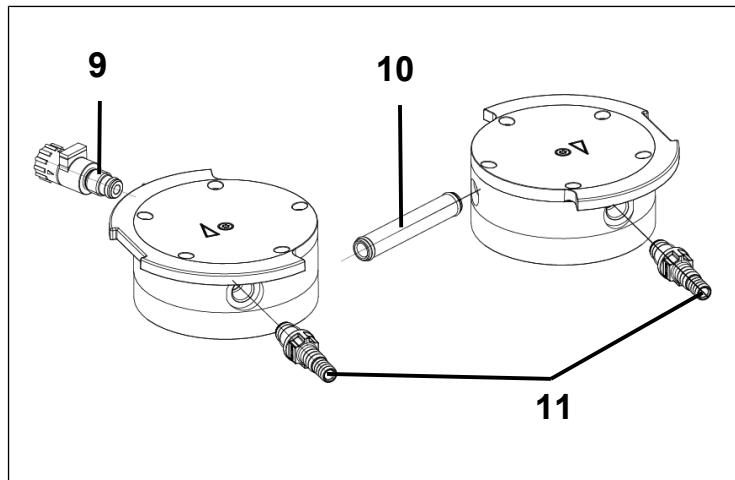

Fig. 10: Changing O-rings
2. Pull the connection tube (**10**/Fig. 10) out of the head cover (**3**).
3. Replace the two O-rings on the connection tube (**10**/Fig. 10).
6. Unscrew the gas ballast (**9**/Fig. 10) from the head cover (**3**).
7. Replace the O-ring on the gas ballast (**9**/Fig. 10).
8. Screw the gas ballast (**9**/Fig. 10) into the corresponding head cover (**3**) as far as it will go. Then turn it back again until the surface is oriented upwards.
9. Unscrew the hose connections (**11**/Fig. 10) from the head cover (**3**) using the tool supplied.
10. Replace the O-rings on the hose connections (**11**/Fig. 10).
11. Screw the hose connections (**11**/Fig. 10) into the head cover (**3**) hand-tight using the tool supplied.
1. Remove the head cover (3) from the intermediate plate (6).
2. Remove the old valve plates/seals (4).
3. Carefully clean the intermediate plate (6) (if there are deposits on it).
4. Insert the new valve plates/seals (4) into the corresponding seats on the intermediate plate (6).
6. Dispose of the old diaphragm (7) and valve plates/seals (4) properly.
7. Insert the connection tube (10/Fig. 10) into the head cover (3).